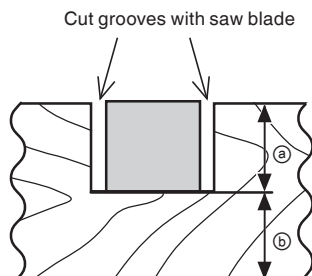

Fig. 46
Grooves in the workpiece can be cut as indicated in Fig. 46 by adjusting the 6 mm depth adjustment bolt.
- (2) Adjust to the desired cutting depth by setting the distance between the saw blade and the surface of the turntable (see ⑥ in Fig. 46).